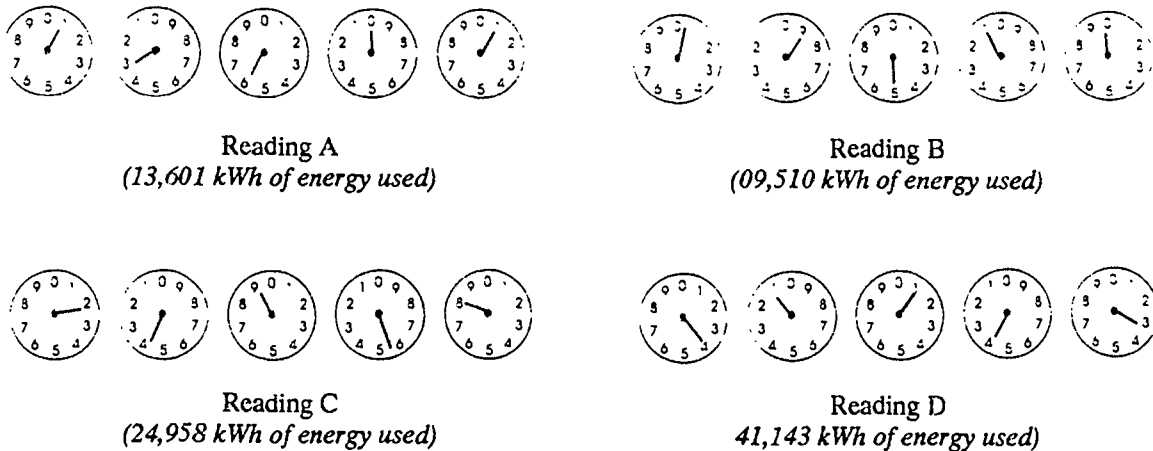

Figure 4. Meter readings.
12. Mark the transparency according to the dial-face settings shown in reading A of Figure 4. Teach students how to read the dials in kilowatt-hours, going carefully from the dial on the right to the dials on the left.